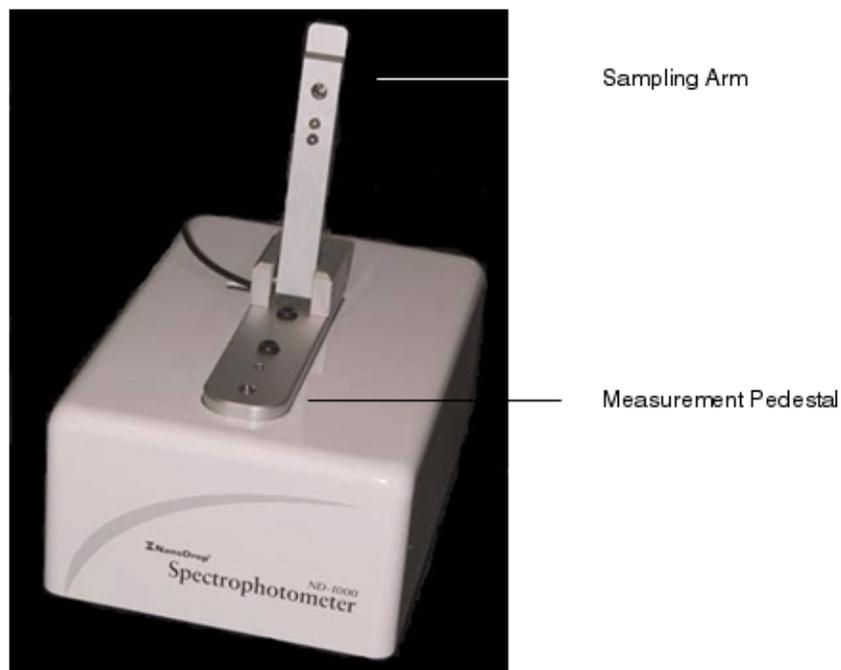

Figure 41 Components of the NanoDrop® ND-1000 Spectrophotometer.
4. Lift the sampling arm and load 2 µL of nuclease-free water onto the lower measurement pedestal and lower the sampling arm (see Figure 41 on page 100).